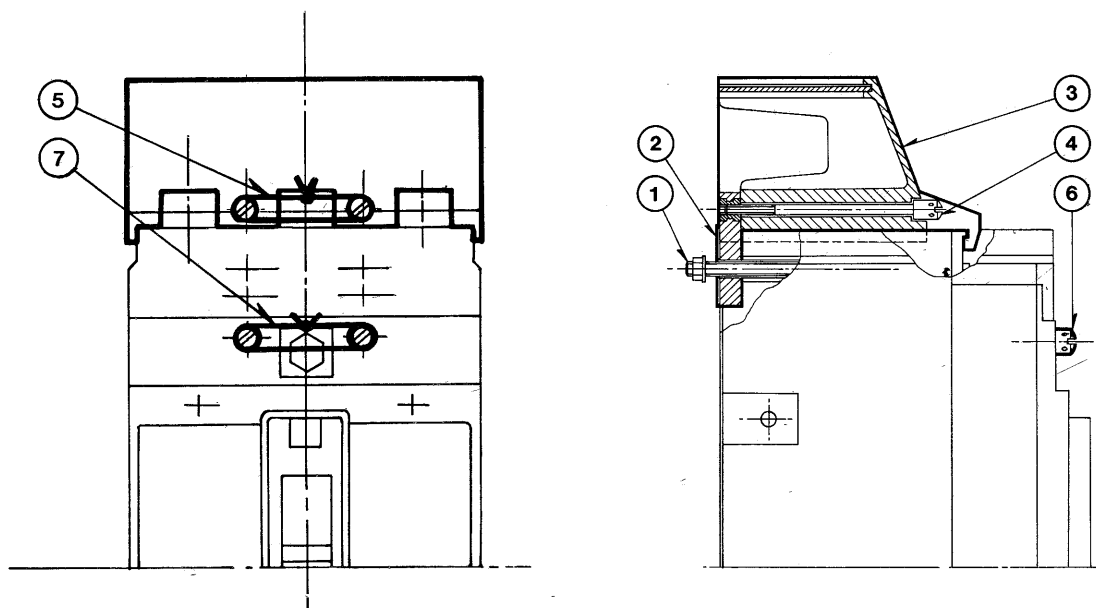

Fig. 35
- e) fit the leaf spring (18) into proper slots
- f) disconnect the cable marked 2 from microswitch (19) and connect it to clamp 2 of microswitch (20) as shown on the figure
- g) connect one end marked 4 of cable (21), supplied with the breaker, to microswitch (19) and the other end to the clamp (1) of microswitch (20) as shown on the figure
- h) secure the microswitch (20) with the two self-tapping screws (22) to the operating mechanism case
- i) screw out screws (24) and remove flange (23)
- l) fit the rod (25) to proper seat and refit the flange (23)
- m) fit the motor mechanism to plate (5) and connect plug (8)
- with the breaker open if the key (13) is turned by 90°, it must be possible to remove the key from lock (12), the shaft (26) must be locked and the electrical circuit must be switched off
- with the breaker closed the key (13) cannot be turned : opening and closing operations must be permitted.
**8.10. Coprimorsetti isolanti sigillabili** solo per interruttori in esecuzione fissa con attacchi per cavi (fig. 35)
- inserire i tasselli (2) nelle apposite sedi sul retro della scatola in corrispondenza delle viti di fissaggio (1)
- applicare i coprimorsetti (3) sull'interruttore per mezzo delle viti sigillabili (4)
**8.11. Viti sigillabili per impedire lo smontaggio del coperchio dell'interruttore** (fig. 35)
- sostituire le viti di fissaggio normali con quelle speciali (6)
- rimontare il coperchio e sigillare le viti (6) infilando nei fori della testa un filo flessibile (7) e piombarlo, come indicato in figura.
**8.10. Terminal sealed protections** only for fixed breakers with cable terminals (fig. 35)
- fit the pieces (2) to their seats on the rear of the case in correspondence with securing screws (1)
- fit the protections (3) to the breaker with sealing screws (4).
**8.11. Sealed screws to prevent the breaker cover from being removed** (fig. 35)
- replace the standard screws with the special ones (6)
- refit the breaker cover thread the heads of screws (6) with a wire (7) and seal, as shown on figure.